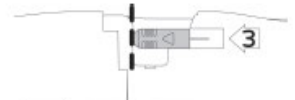

Fig.8: Step 3 - Confirm slider
3. **Hold injector body with thumb and slowly push the slider forward in an even manner for about 3 seconds, without applying upward or downward pressure, until it stops (Fig.7). Verify the slider stops at the injector case (as indicated in Fig. 8, by the dotted line). DO NOT pull the slider back. After slider advancement, implant the IOL within 3 minutes.**